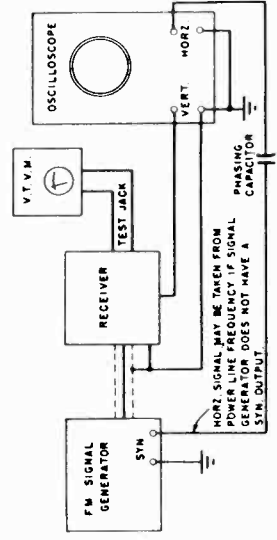
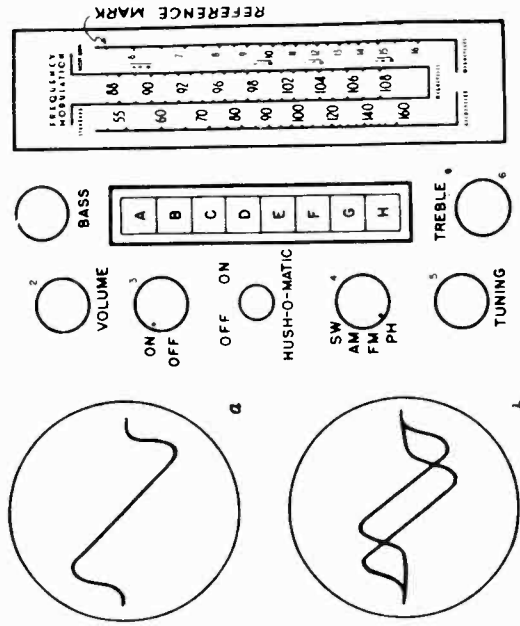

Fig. 4 Instrument Connection Diagram
Fig. 5 Ratio Detector "S" Curves
5. Connect test equipment as shown in Fig. 4. Some oscilloscopes have phasing controls and a 60 cycle sine wave horizontal sweep provided internally. If such an oscilloscope is available, the horizontal input connection and phasing capacitor shown in Fig. 4 are not required. The vertical input to the oscilloscope is connected to the AUDIO pin on the test circuit jack and the ground of the oscilloscope connected to the receiver chassis. Connect V.T.V.M. ground or "minus" lead to point B and "plus" lead to IF pin on test circuit plug.
7. Adjust output of signal generator to obtain 10.7 MC FM and approximately 6 volts on the V.T.V.M. The sweep width of the FM signal must be at least 200 KC plus and minus the center frequency. An "S" curve similar to Fig. 5 should now appear on the oscilloscope, but it will likely be necessary to adjust the signal generator frequency slightly in order to properly center this "S" curve on the oscilloscope screen. If a double trace appears, as shown in Fig. 5b, adjust the phasing control (may be built in the oscilloscope or the phasing capacitor shown in Fig. 4) until a single trace is obtained.